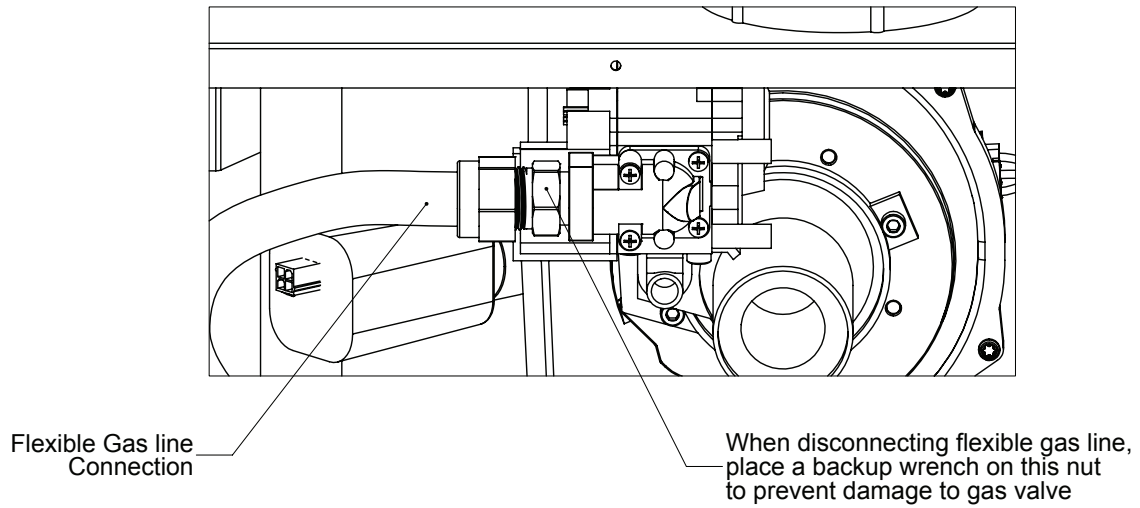

Figure 13.1: Disconnecting Flexible Gas Line
- e. **Disconnect the flexible gas line** at the gas valve flare connection (Figure 13.1).
Fire Hazard. Explosion Hazard. Always use a back-up wrench on the flare connection when making or breaking this connection as shown in Figure 13.1. Failure to do so can cause adjacent threaded connections to loosen or damage to the gas valve. Check all internal gas piping for leaks any time it is disconnected or disturbed during servicing.